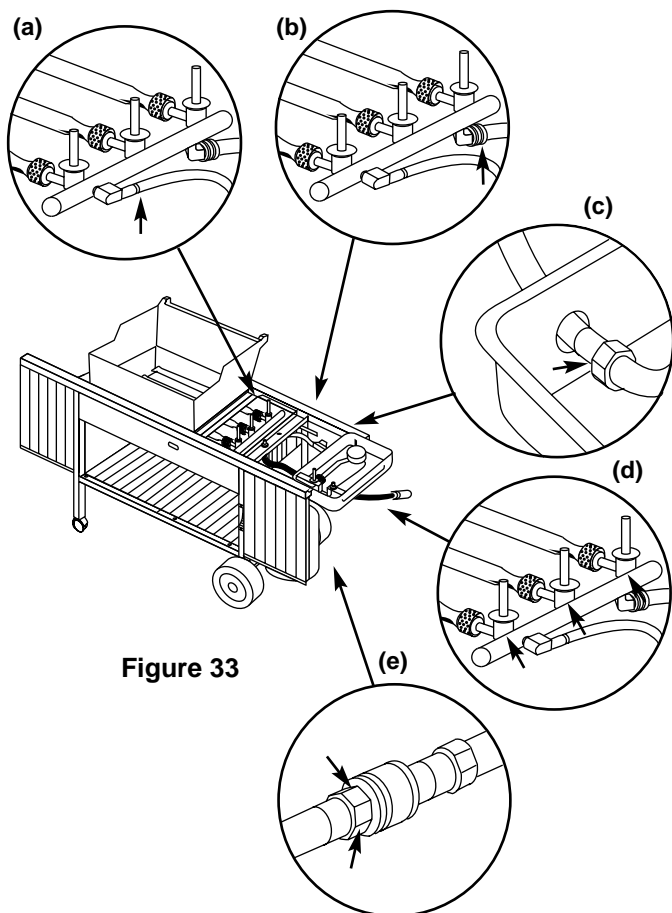

Figure 33
- a) Hose to manifold connection. Figure 33 (a).
- b) Manifold to side burner hose connection. Figure 33 (b).
- c) Side burner hose to side burner connection. Figure 33 (c).
- d) Valves to manifold connections. Figure 33 (d).
- e) Hose to quick disconnect connection. Figure 33 (e).